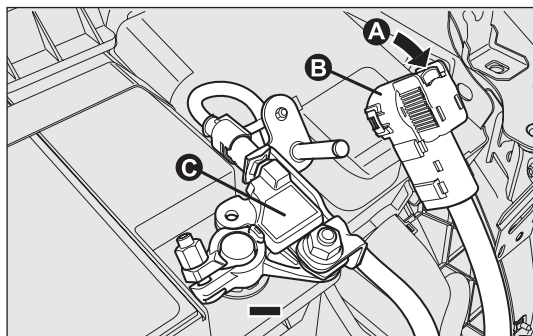

fig. 114
- ☐ press the button A-fig. 114 to remove the connector B from the sensor C monitoring the battery conditions (the latter is on the negative pole of the battery).